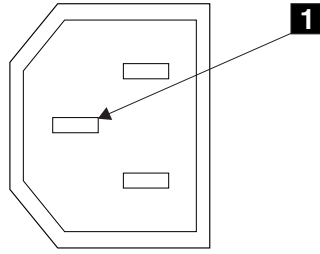

Figure 2. Ground pin
6. Check for continuity between the frame of the SAN Volume Controller 2145-8F2 and the ground pin of each main power connector. The ground pin is shown as **1** in Figure 2 on page xxxv.